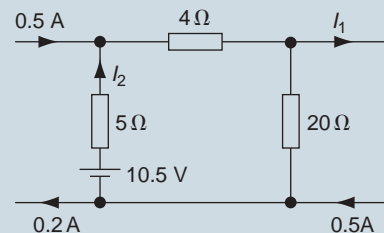

Figure 15.13
3. Calculate the currents I_1 and I_2 in Fig. 15.13.